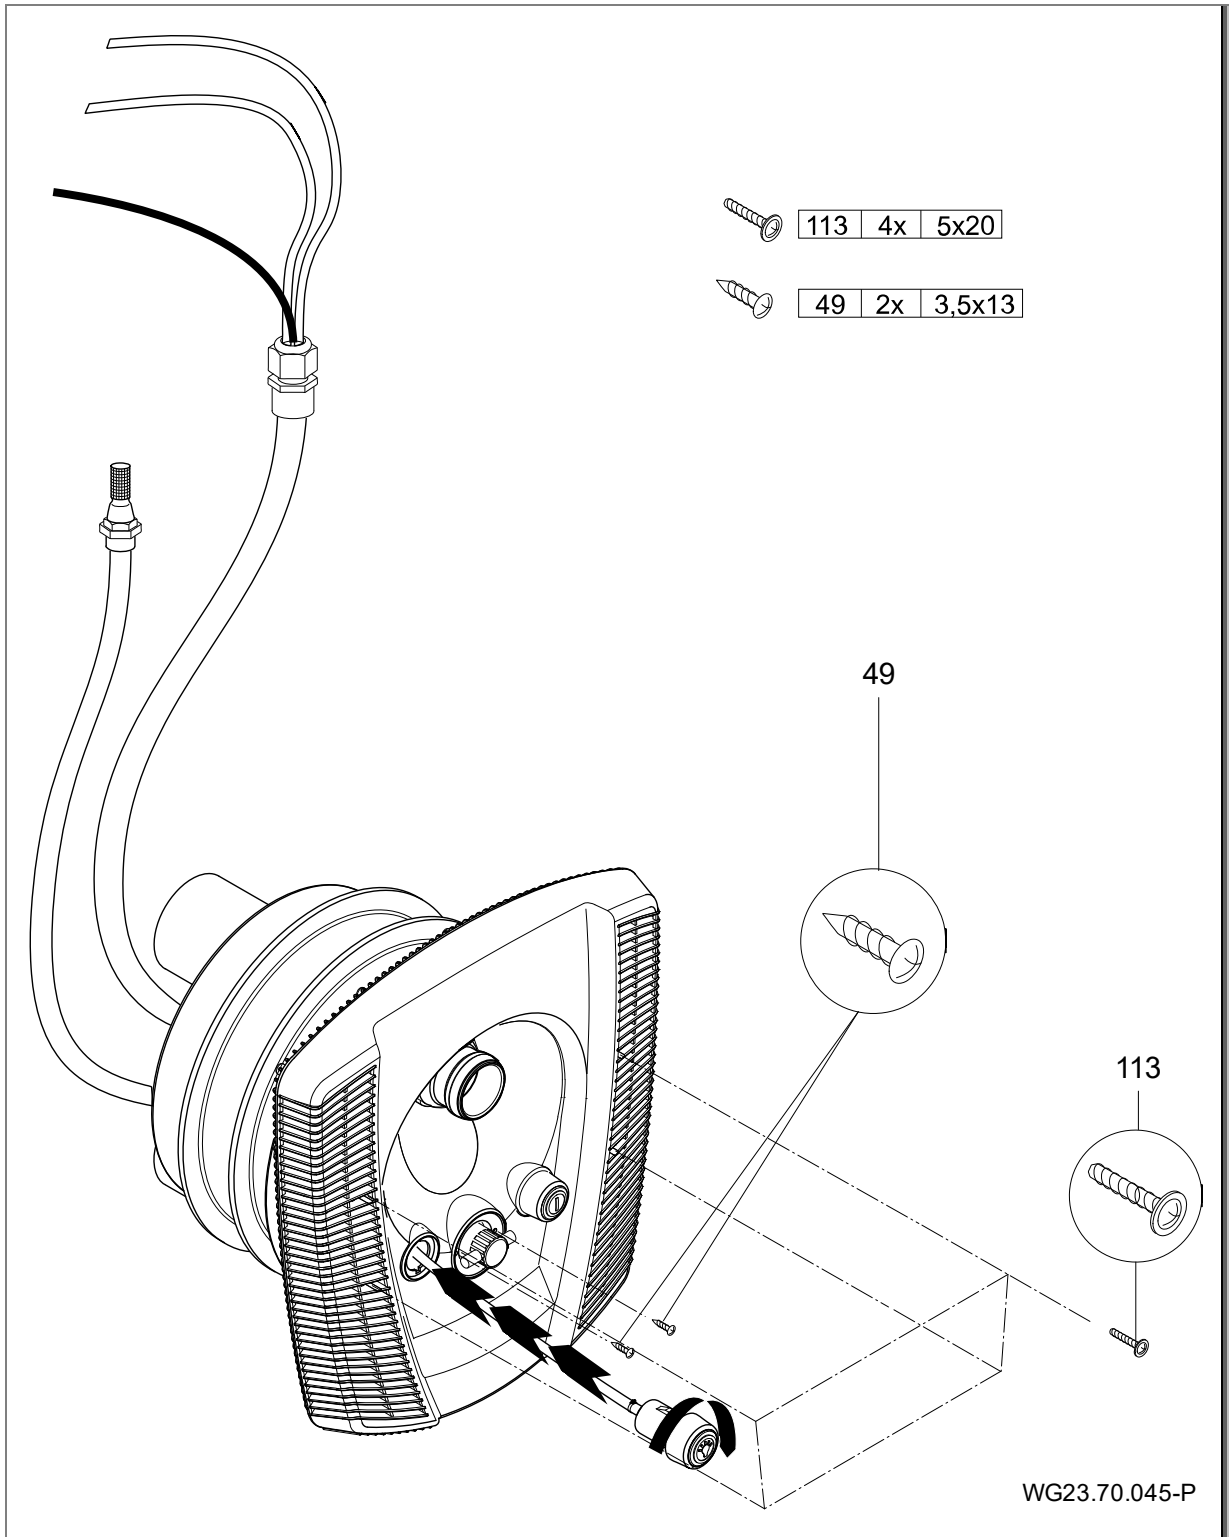

Fig. 19
7. Fasten the cover (93) to the nozzle housing with the four screws (113). Insert the two pneumatic buttons through the light cover (110) in the nozzle housing and lock by turning it clockwise. (Fig. 19)